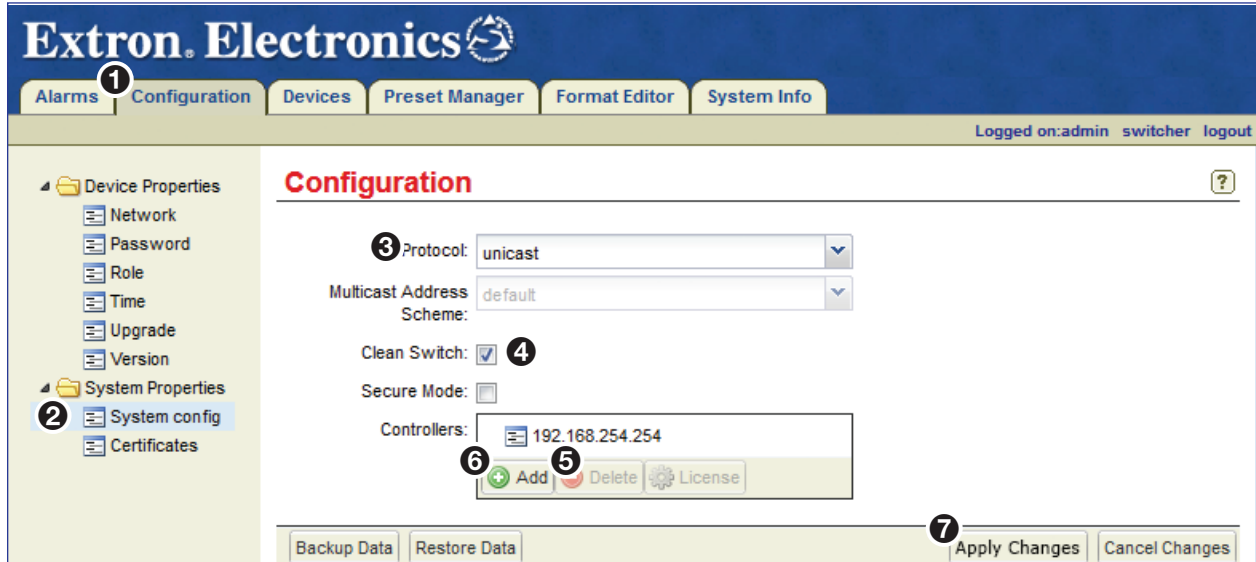

Figure 6. System Configuration Page
- Log in to the controller and click the **Configuration** tab (see figure 6, **1**). The Configuration page opens.